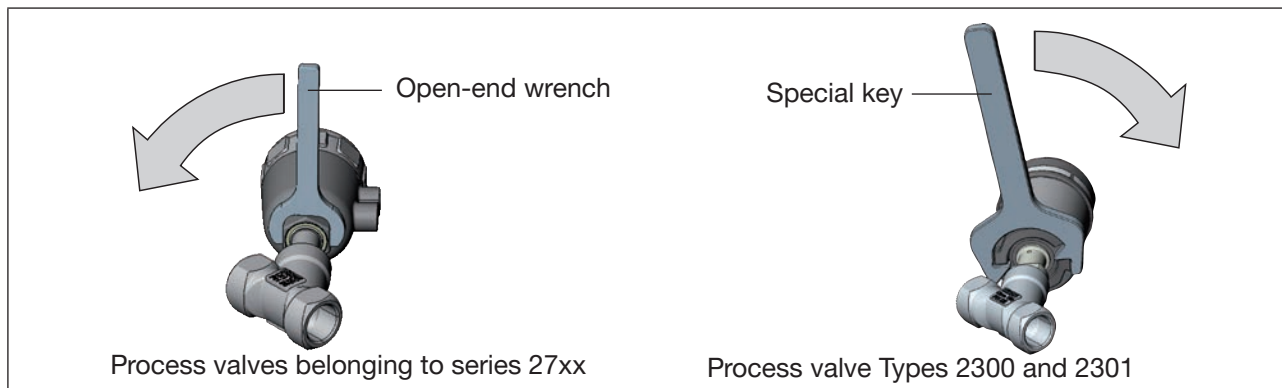

Figure 22: Specified direction of rotation and tool for turning the actuator module
- ▶ The actuator module must only be turned in the specified direction (see Figure 22)!